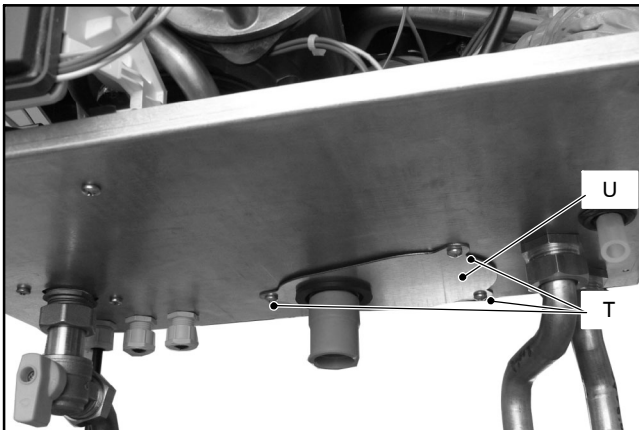

Fig. 5.5
- 20 Unscrew the screws *T* and remove the plate *U* (Fig. 5.5).